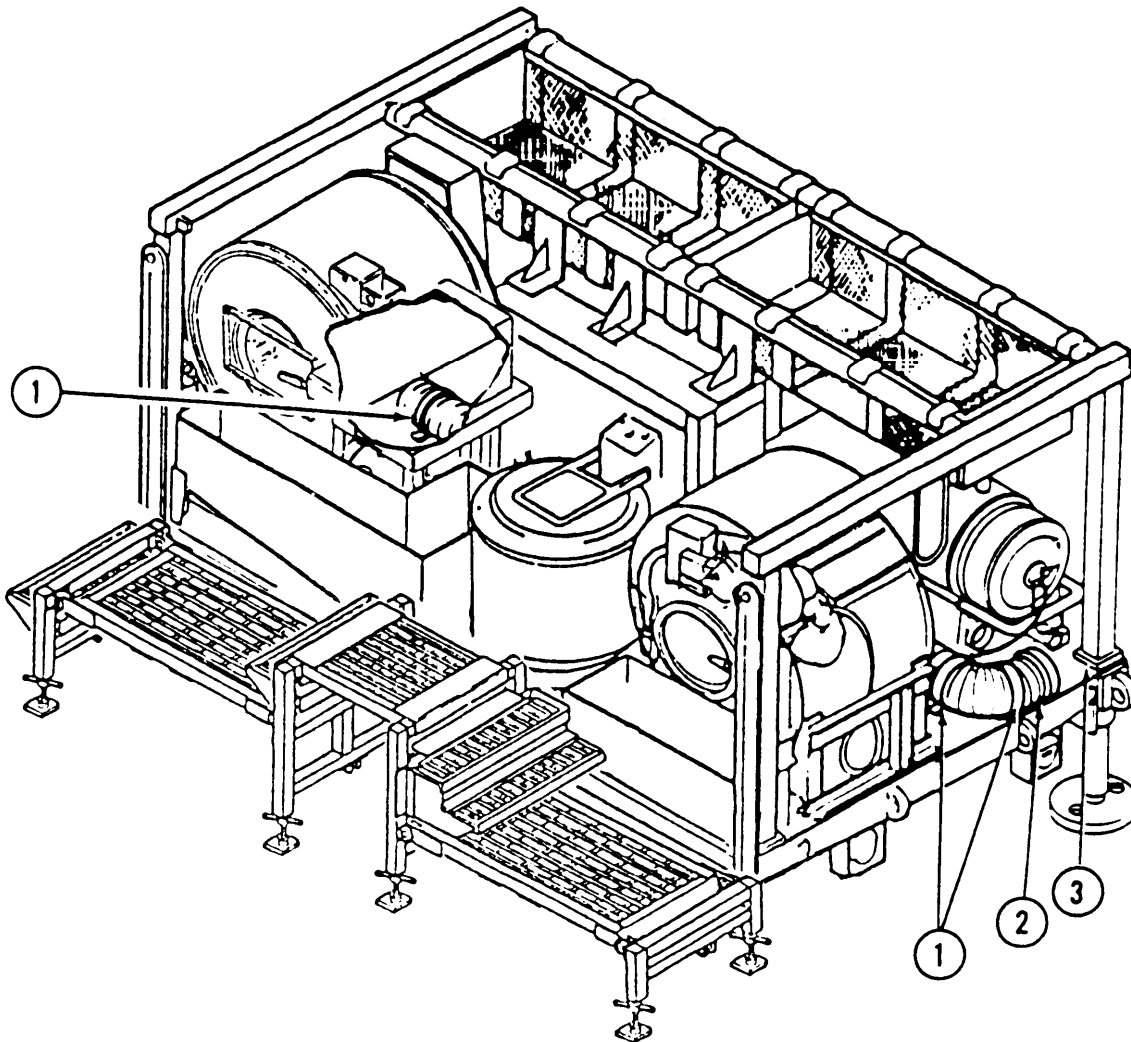

Figure 2-15. Exhaust Duct Removal From Trailer.
- (1) Unhook three straps (1, figure 2-15) and remove combustion exhaust ducts (2) from trailer assembly (3).